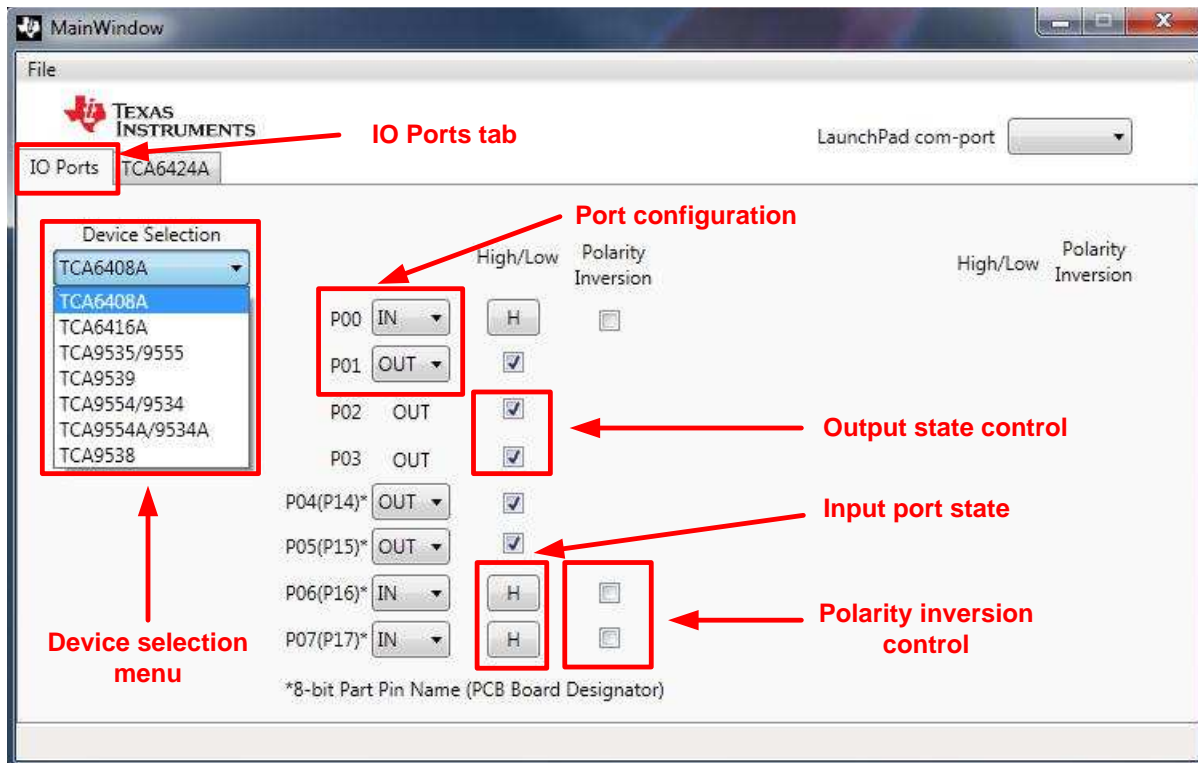

Figure 4. IO Ports Tab (8-bit Part Installed) on GUI
1. The IO Ports tab also offers control for any of the supported 8-bit IO expanders if one is alternately installed on the PCB. Figure 4 shows the IO Ports tab on the GUI for a 8-bit part.